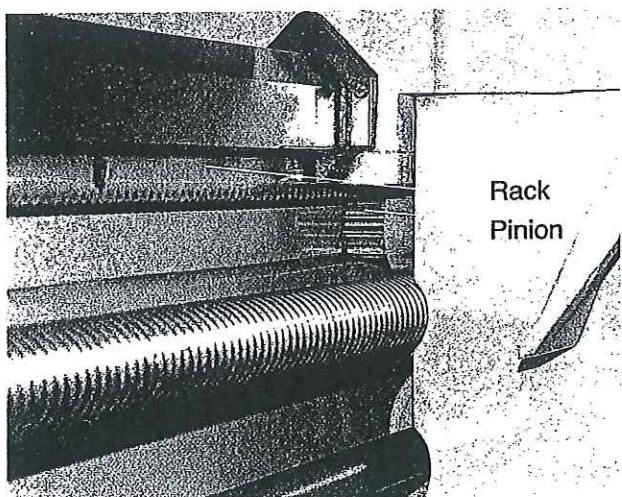

Figure 8
5. New rack and old gear. (If machine has been crashed) (**Figure 8**)